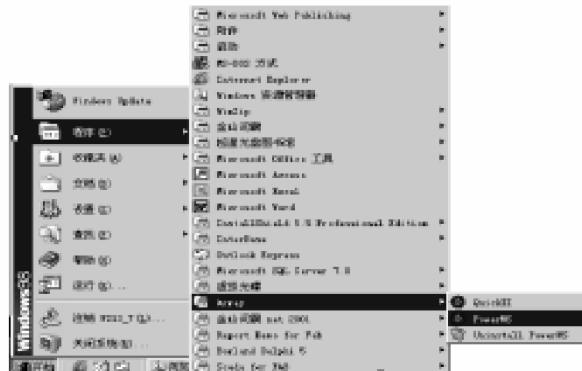
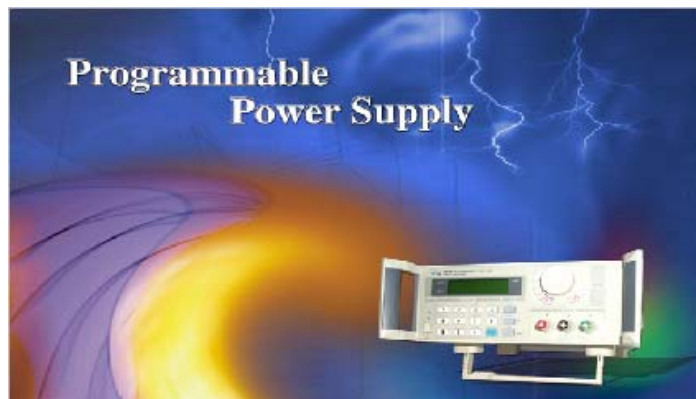

Fig. 3-8 The System Start Interface
Fig. 3-9. The initial start up window
- 3.2.1 In Fig. 3-8, click the mouse on “Start | Program | Array” and then “PowerMS”. The initial program start up window will be displayed in fig 3.9
- 3.2.2 The initial start up window is displayed as shown in Fig. 3-9.
To uninstall the powerMS program, click on the  icon in the MS Power program folder. See fig 3-8 for details. Note: The Main control window must be closed before the uninstall can be performed.